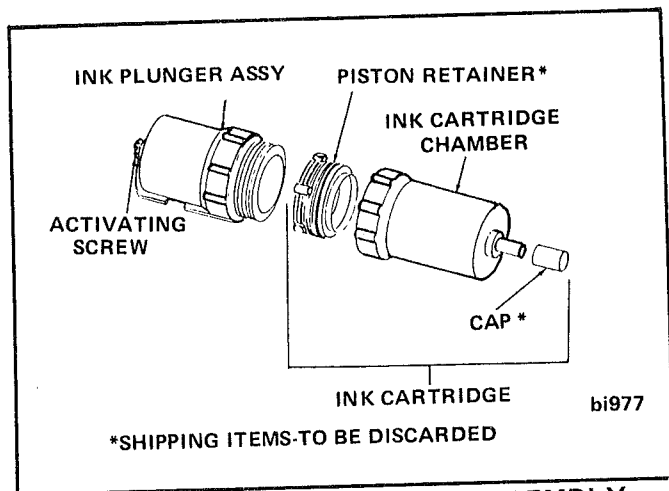

FIGURE 5-5 INK CARTRIDGE ASSEMBLY
11. Unscrew ink cartridge from plunger assembly and discard (Figure 5-5).
12. Remove piston retainer from replacement cartridge and discard (Figure 5-5).
14. Remove shipping cap from ink cartridge and discard (Figure 5-5).